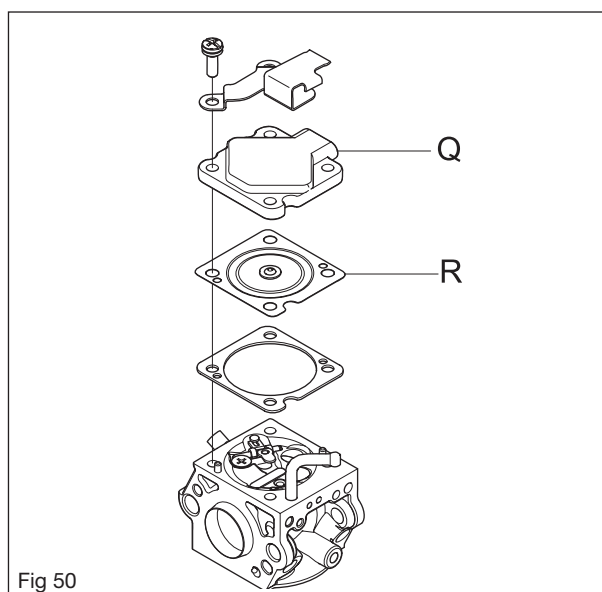

Fig 50
6. Fit the control diaphragm (R) with gasket and cover (Q) with the bracket for the connector above the metering unit. See Figure 50.